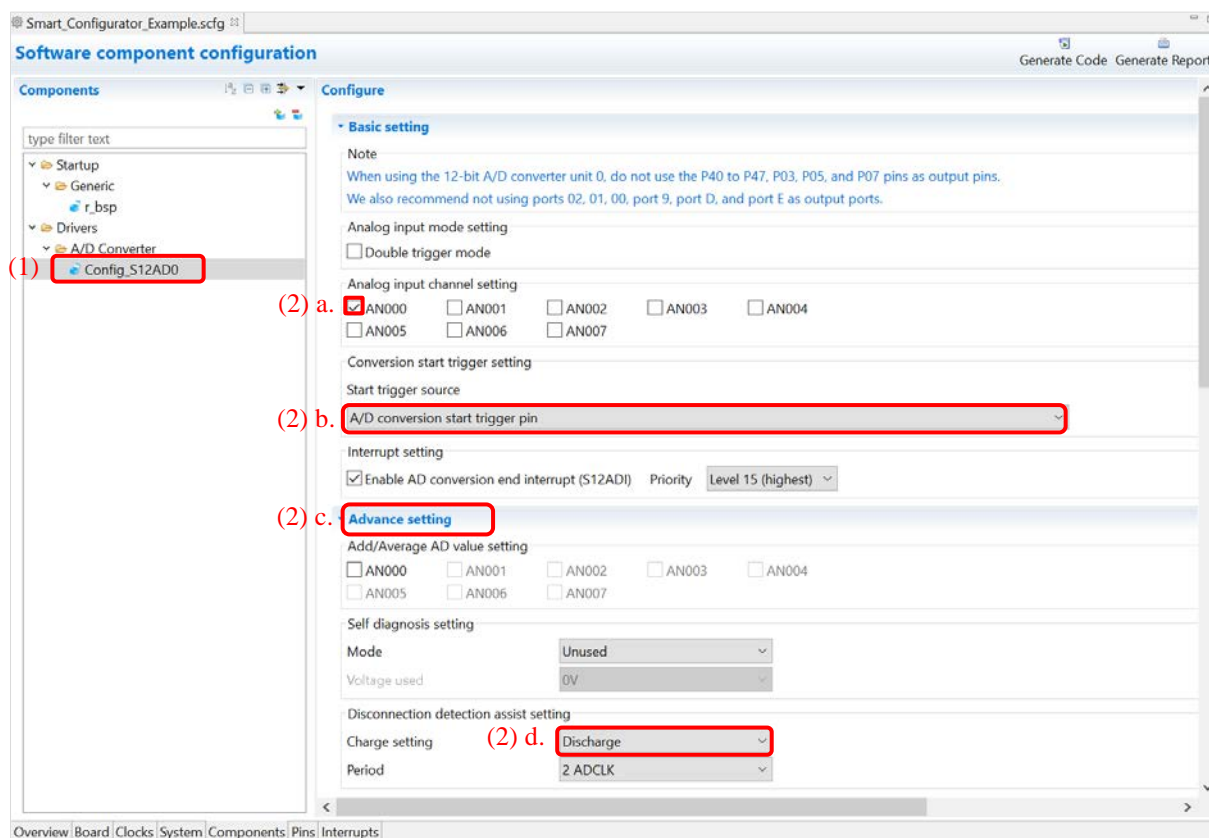

Figure 4-16 Component Configuration Settings
- (1) Click the component in the component tree. (e.g. Config_S12AD0).
- (2) Configure the driver in the [Configure] panel to the right of the Components tree. The Figure 4-16 is an example.